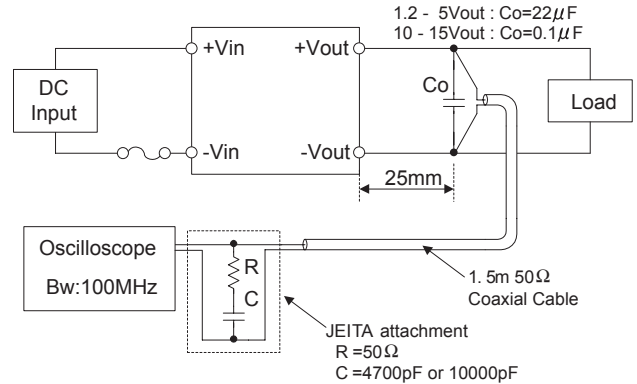

Fig.2.6 Measuring method of ripple and ripple noise
■ Ripple and ripple noise are measured, as shown in the Fig.2.6, by connecting C_o and JEITA attachment.